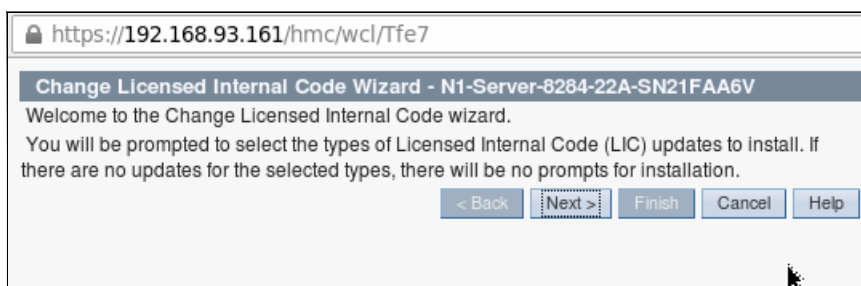

Figure 1-20 Change LIC welcome screen
6. Select **Next** to start the check for available firmware updates (see Figure 1-20).